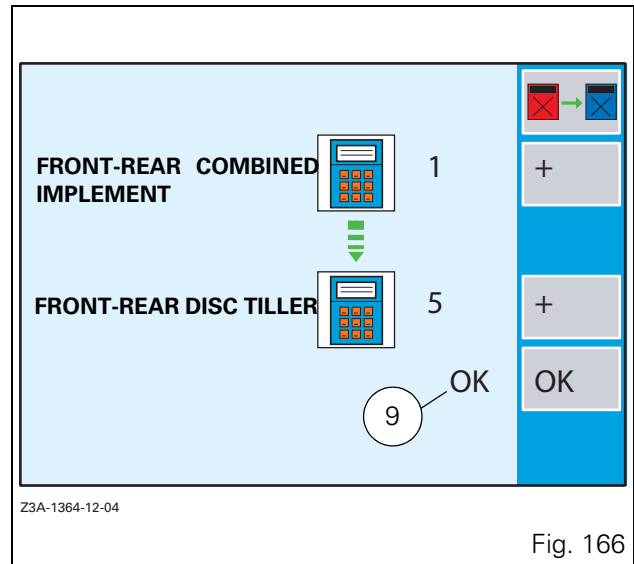

Fig. 166
- Validate by pressing the key «₅. The symbol (OK) is displayed (9 Fig. 166).